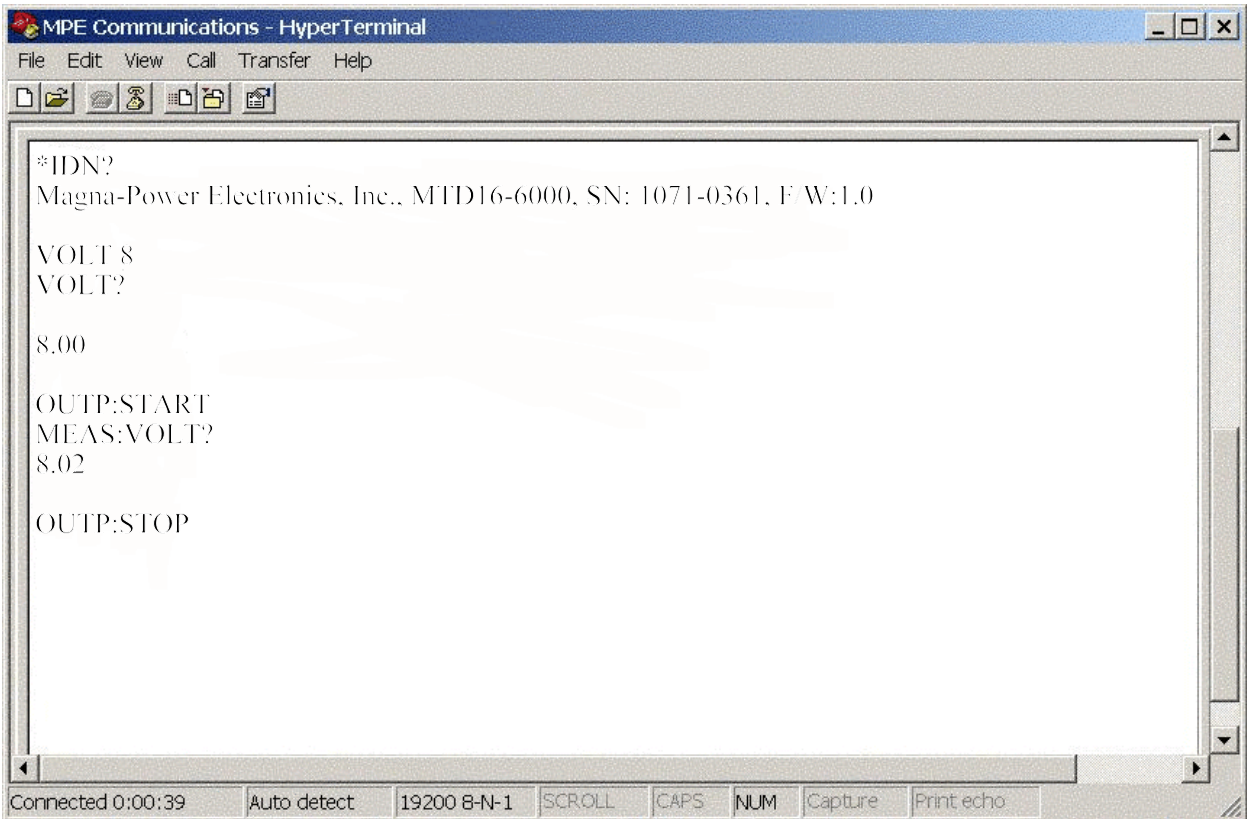

Figure 4.1 RS232 Communications using Microsoft Windows (tm) HyperTerminal
7. As illustrated in figure 4.1, the returned data will display the following: “Magna-Power Electronics, Inc., MTD16-6000, SN: 1071-0361” where the model and serial number may be different depending on the unit being tested.